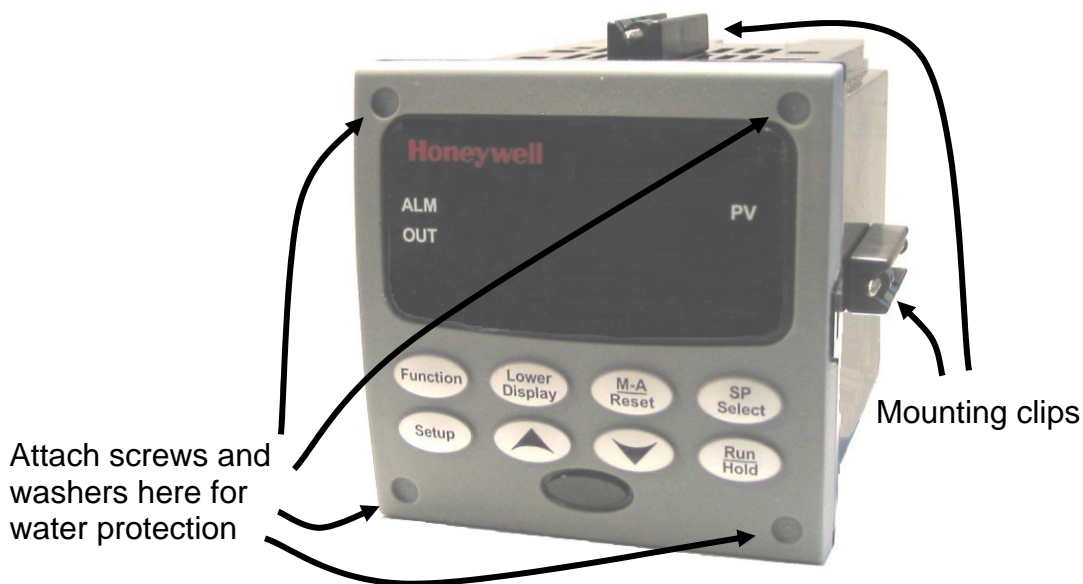

Figure 3-3 Mounting Methods
- The front panel is moisture rated NEMA3 and IP55 rated and can be easily upgraded to NEMA4X and IP66. See Figure 3-3 and Table 3-1 Mounting Procedure.
4	For water-protected installation (NEMA 4/IP66), install four screws with washers into the four recessed areas in the corners of the front bezel (Figure 3-3). Push the point of the screw through the center piercing the elastomeric material and then tighten screws to 5 lb-in (56 N•cm).